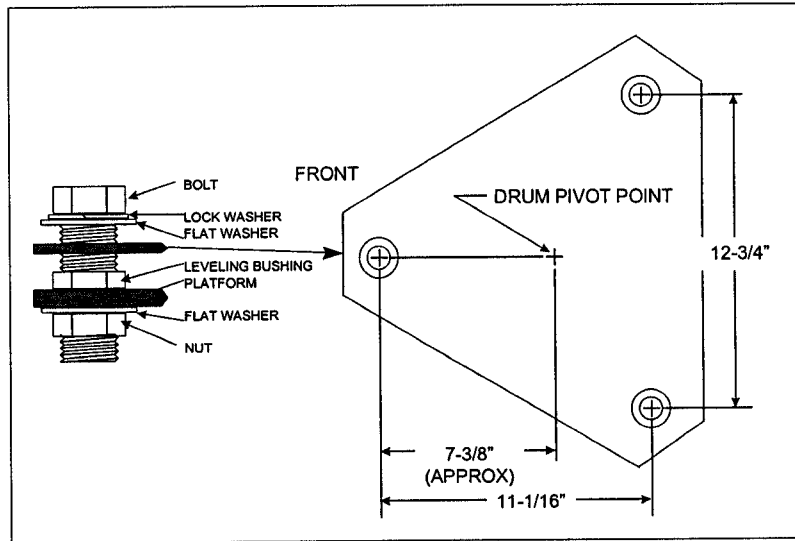

Figure 4-1
- b. Secure the lantern to the platform using 3/8" bolts as shown in Figure 4-1.